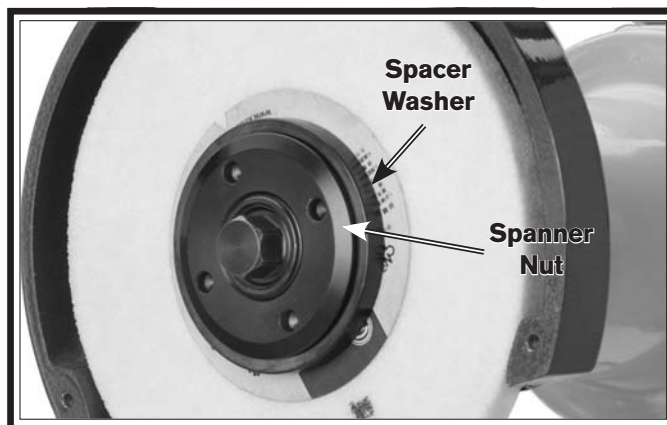

Figure 14. Wheel spanner nut.
4. Position the spanner wrench on the spanner nut (**Figure 14**).